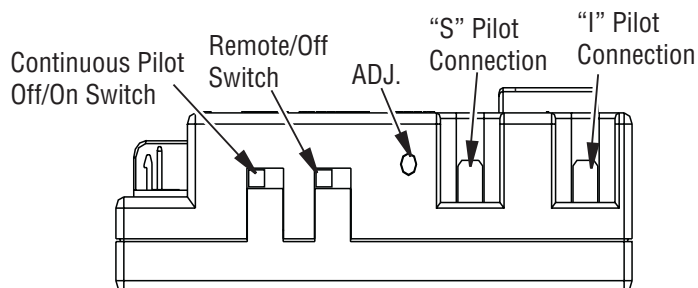

Figure 26 - Gas Module Right Side
1. There is a switch located on the right side of the module that reads REMOTE/OFF (Figure 26).